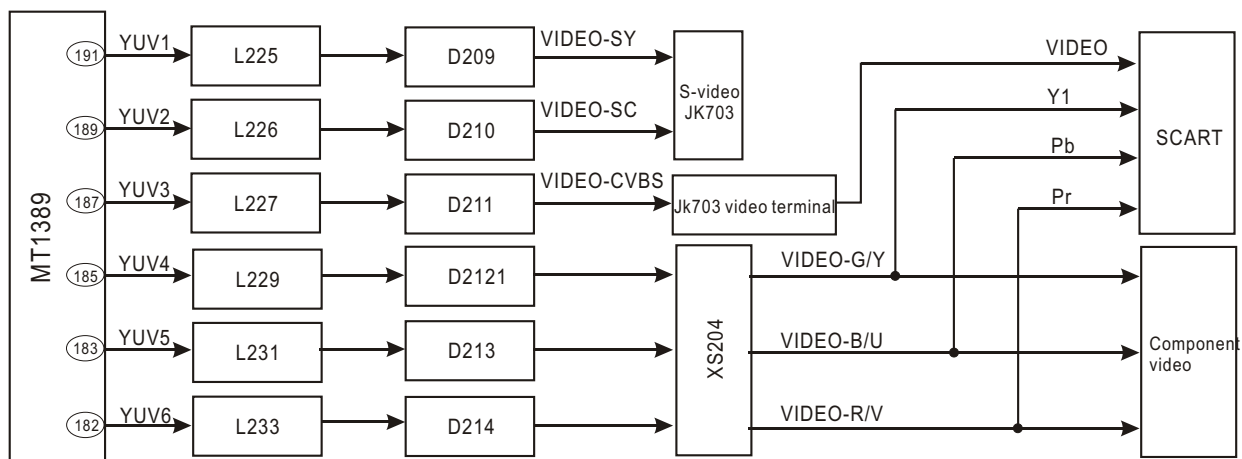

Figure 3.2.9.1 Video signal flow chart
1. Video signals flow chart diagram is shown in the figure 3.2.9.1: